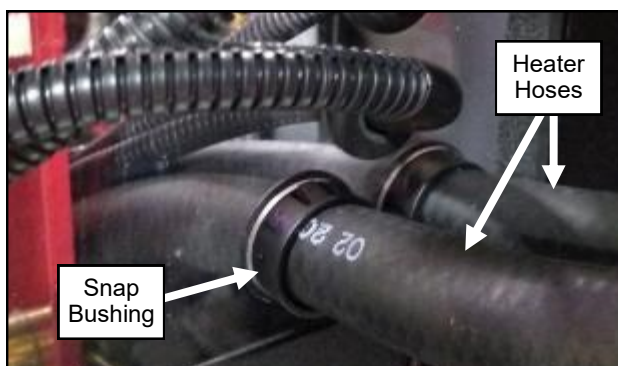

Fig. 19.2 (Heater Hose Routing)
19.2 Slip one of the provided 3/4" snap bushings onto each end of the 5/8" diameter hose. Run the hoses from the engine compartment, in thru the large holes found on the left side of the cowl. See Figure 19.2.